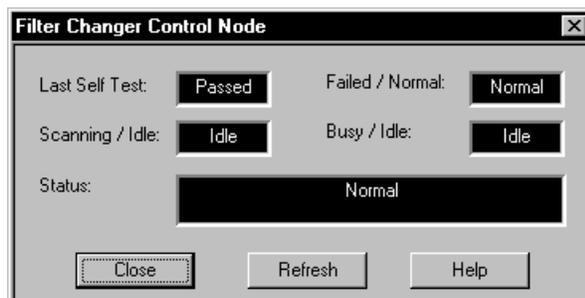

Figure 7-13. Filter Changer Control Node.
**Filter Changer Control Node**—This icon brings up the Filter Changer Control Node window (figure 7-13), which displays the status of the FLTR board.